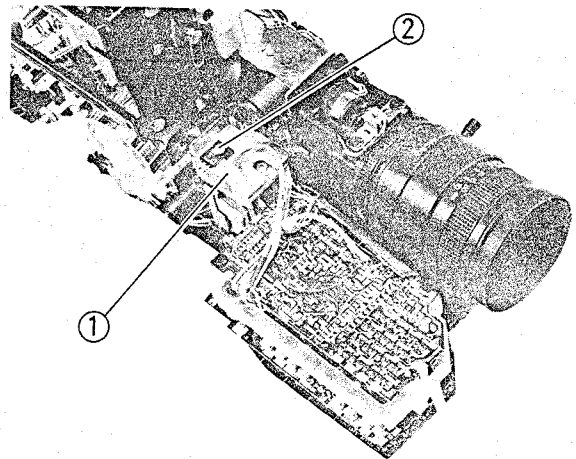

Fig. 2-32 8V Regulator Circuit Board Removal
8V Regulator Circuit Board Removal (Fig. 2-32)
1. Disconnect connector CN1525. (See Fig. 2-32)
2. Remove one (1) screw holding the 8V regulator circuit board.